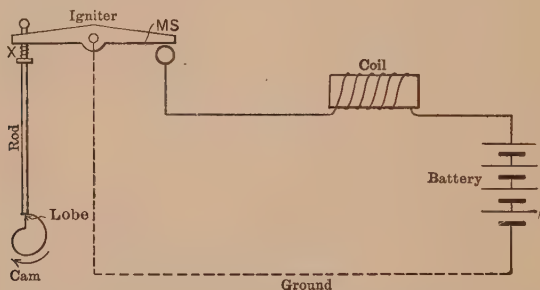

FIG. 205. Make-and-break system of gas-engine ignition, using batteries and spark coil.
**120. Gas-engine Ignition. Make-and-break System.** We have seen that when an electric circuit containing a coil with soft iron core is broken, a spark jumps across the gap. Use of this is made in exploding the gas in the cylinder of a gas engine (see Fig. 205). As the engine shaft revolves, it turns the cam in the direction marked. This gradually pushes up the rod so that the points  $M$  and  $S$  of the igniter touch each other and a current flows in the